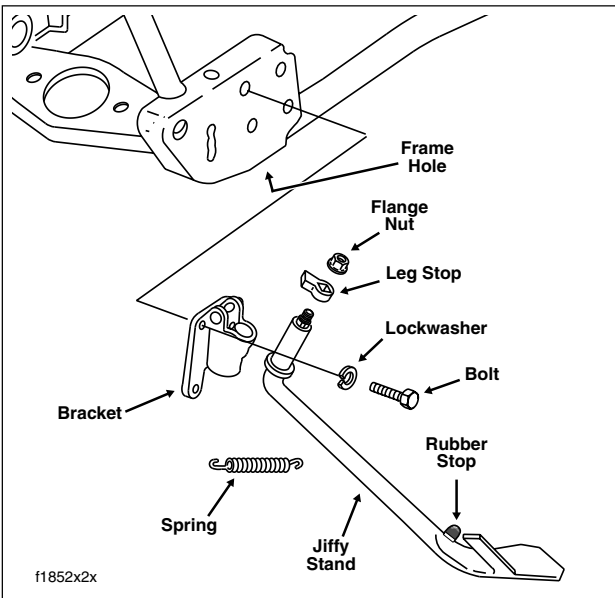

Figure 2-186. Jiffy Stand Assembly
2. See Figure 2-186. Move jiffy stand to the retracted position (up). Remove flange nut and leg stop from threaded end of jiffy stand leg.